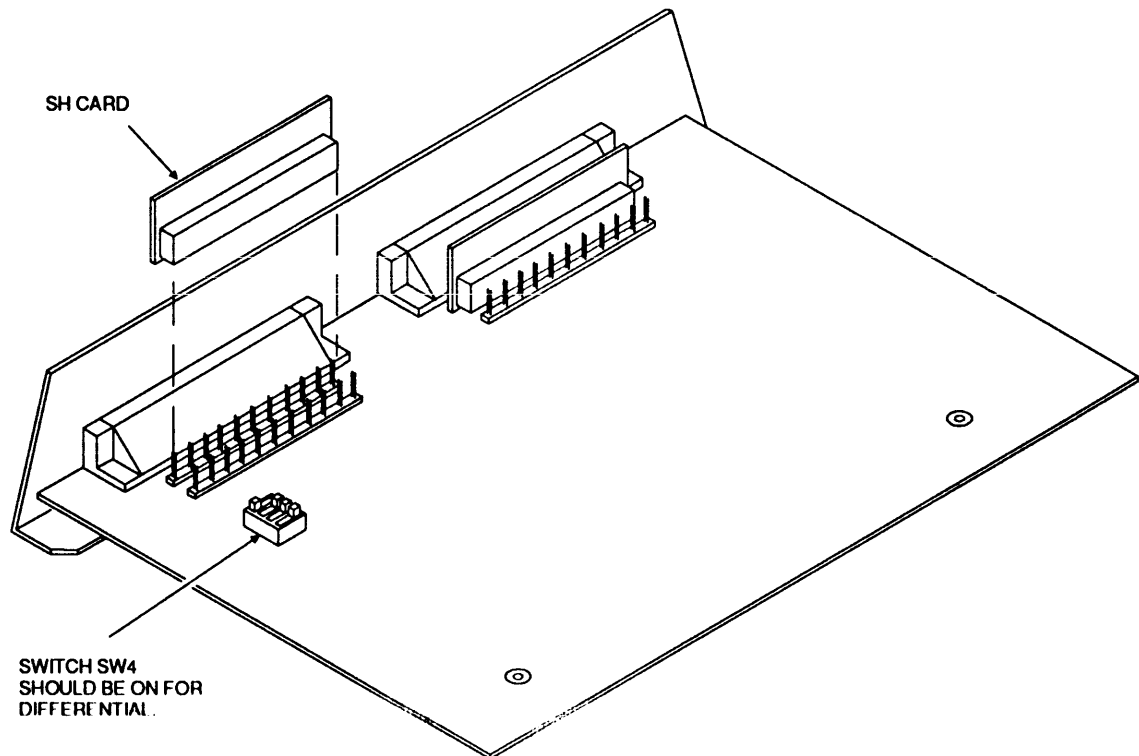

Figure 7.
4. Set DIP switch 4 located on the SZ card to desired settings, On for differential, Off for singled ended. (Refer to Figure 7.)
5. On the SZ card, there are two pairs of terminating jacks (refer to Figure 7). Each pair of jacks has a corresponding terminating SH card. Each card should be inserted into the slot (connector) marked with the type of configuration desired. If necessary, change the location of both terminating SH cards.